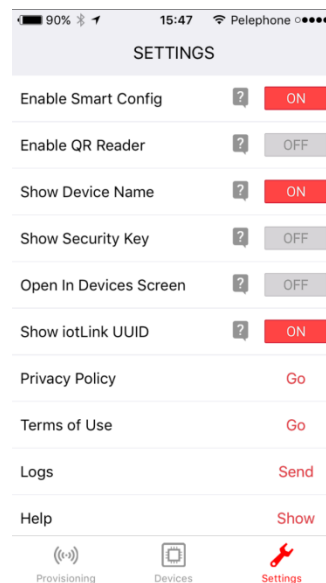

Figure 11. Wi-Fi Starter Settings Tab
1. Open the application and navigate to the Settings tab. Ensure the Enable Smart Config setting is set to ON (Smart Config is the preferred provisioning method, see Figure 11).